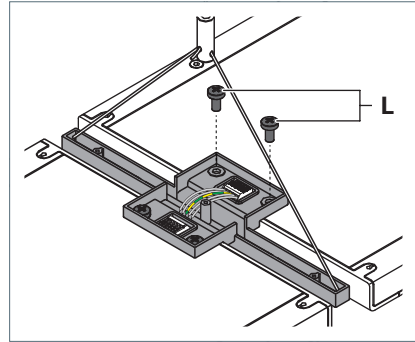

Fig. 15: Connecting luminaires.
- Connect the connecting element of the already mounted luminaire and the luminaire to be daisy chained using the delivered screws **L**, see Fig. 15.